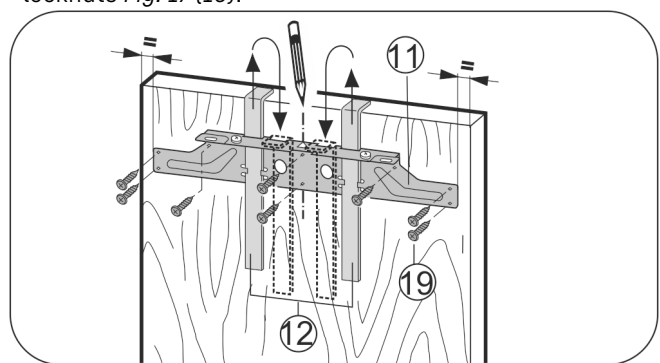

Fig. 18
- Attach fastening crosspiece Fig. 18 (11) to the inside of the unit door using the assembly aids Fig. 18 (12).
- Align the crosspiece Fig. 18 (11) in the middle of the door.
- Secure the fastening crosspiece Fig. 18 (11) with at least 6 screws Fig. 18 (19).
- Secure the fastening crosspiece Fig. 18 (11) with 4 screws Fig. 18 (19) at the edge.
- Raise the assembly aids Fig. 18 (12) for removal, turn them and insert them into the adjacent openings.